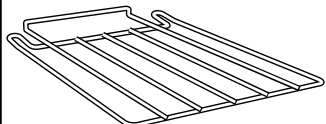

Fig.2-25
- 1 plate warming shelf (**Fig.2-25**)